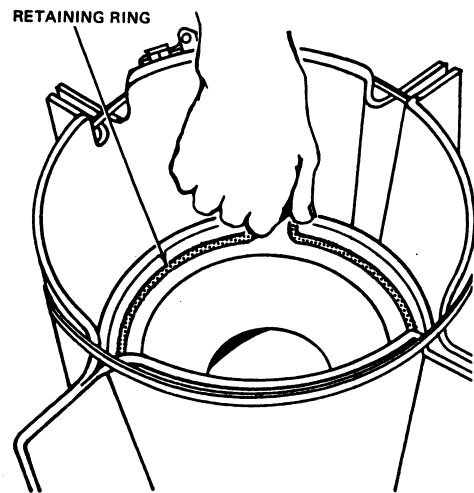

Figure 12-36.—Removal of retaining ring by squeezing ears of ring.
the two projecting ears of the ring together. (See fig. 12-36.) Ensure the garter spring does not unseat.
6. Place the ears so they straddle the 12 o'clock position hole on the bomb. (See figures 12-36 and 12-37.)